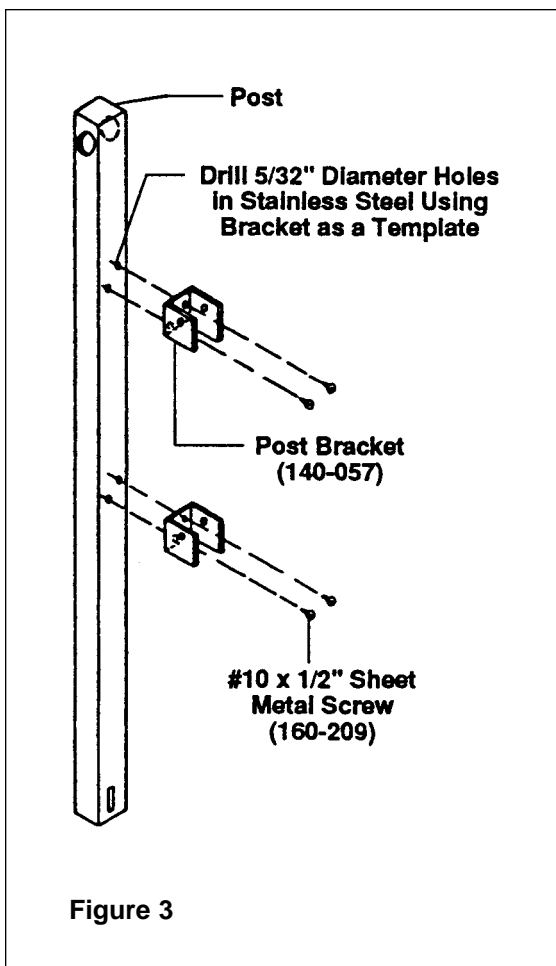

Figure 3
7. Fasten the post brackets to the posts (see Figure 3).